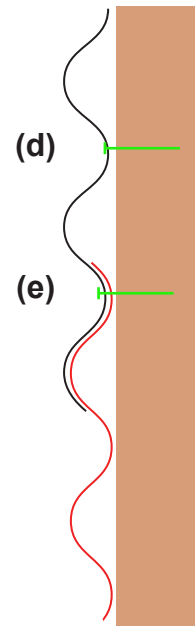

Fig.3
- Place the final 2 boards in place inverted as per fig.3, and align the ends to the rest for the floor. Stand firmly on the inverted boards to push them into place and tighten all of the floorboards.
- To fix the bottom of the sheet, hold the top sheet flat against the framing and align the edge of the cladding and the corner stud. This ensures the back wall of the shed is square. Place 1 x 25mm Tek screw 2 ribs up from the bottom of the sheet (**Fig. 3**)(d). This will let the next sheet slide underneath.
- Position the 2nd sheet underneath the first sheet so that it is overlapped correctly (**Fig. 3**). As per the first sheet, start in the top left hand corner, place a screw in the overlap of the 2 sheets (**Fig. 3**)(e) and (**Fig. 2**)(f).